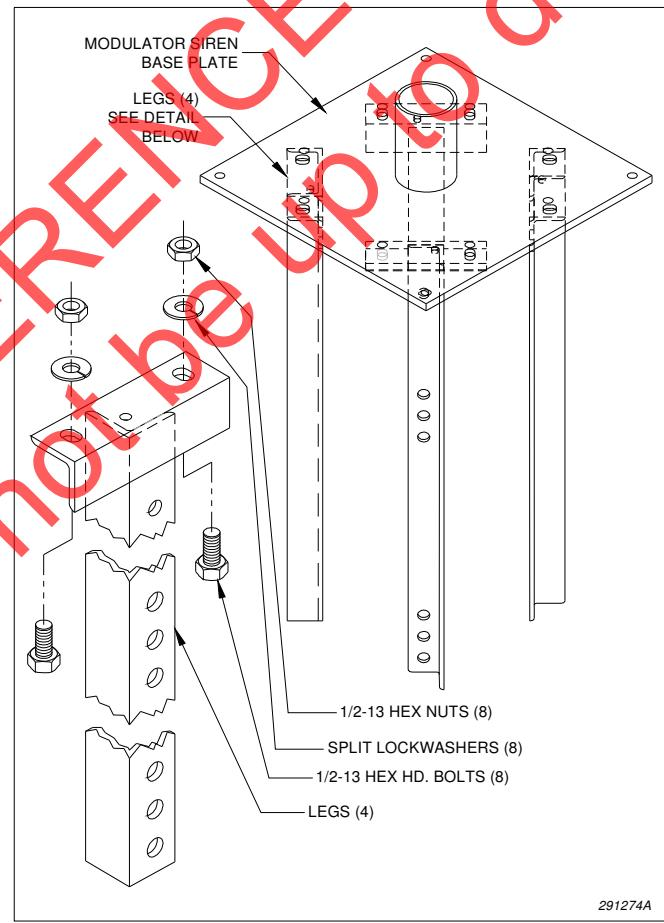
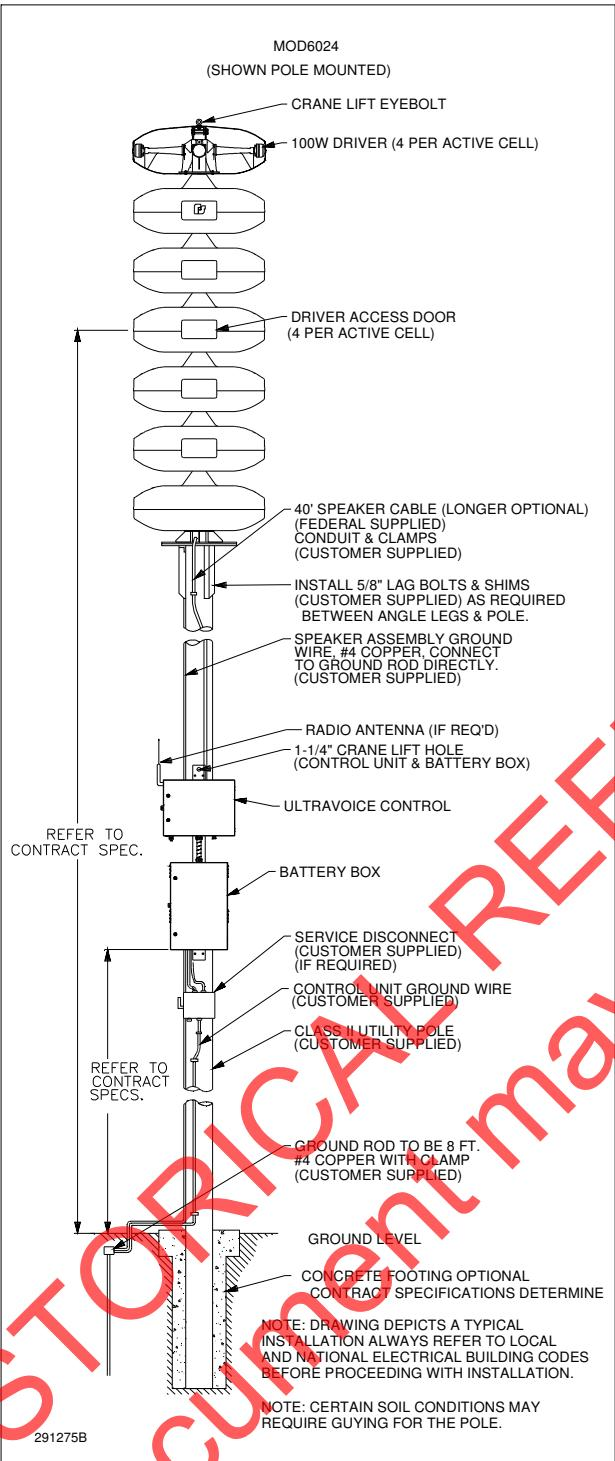

Figure 3-1. Siren Leg Assembly
Figure 3-2. Typical Wooden Pole-mounted Installation
A typical wooden pole-mounted siren installation is shown in *Figure 3-2*. The siren is mounted on a Class 2 utility pole (ANSI type wooden pole or equivalent) with a minimum horizontal ground stress rating of 3,700 pounds (1682 kg). Insure that soil loads will conform to this size utility pole. It is attached to the pole by means of legs, as shown in *Figure 3-1*.
2. Install the four legs on the siren mounting plate, as shown in *Figure 3-1*. Use two stainless steel 1/2" bolts, nuts and lock washers (provided) for each leg. All mounting hardware needed is supplied in the hardware kit shipped with this manual. Do not tighten the bolts completely.